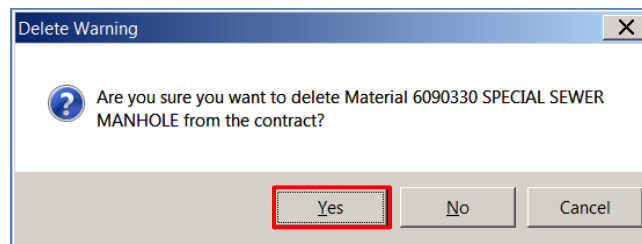

Figure 6-25. Delete Material - Delete Warning Window
3. Click the **Yes** button on the final Warning window (Figure 6-25).